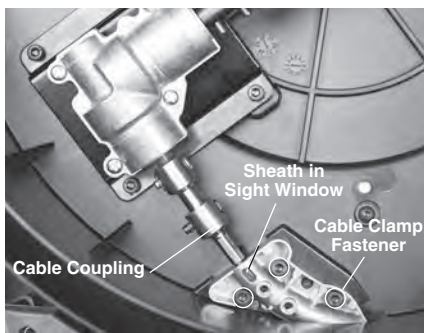

Figure 16 – Changing the Cable Assembly
- Reverse process to assemble, securely attaching all fasteners. Ensure sheath is all the way to the end of the site window in the cable clamp (see *Figure 16*).